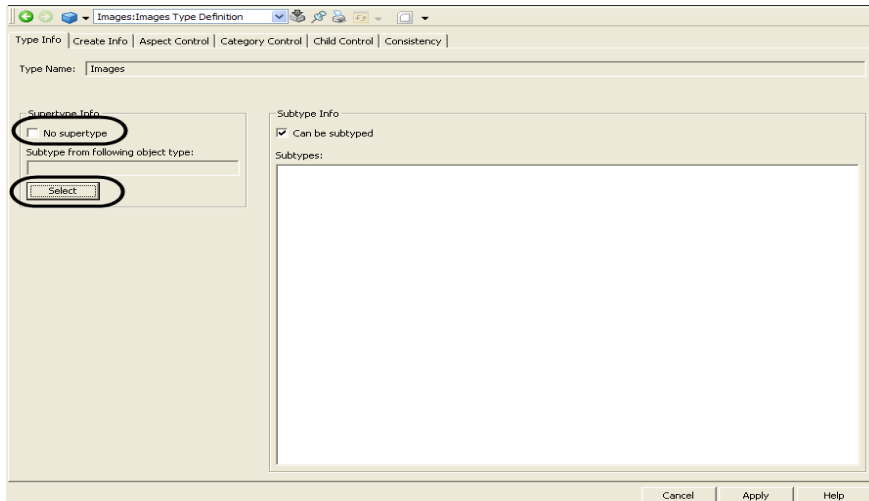

Figure 275. Type Definition settings
4. Clear the **No supertype** check box and click **Select** as shown in Figure 275. The **Select Object Type** dialog appears.